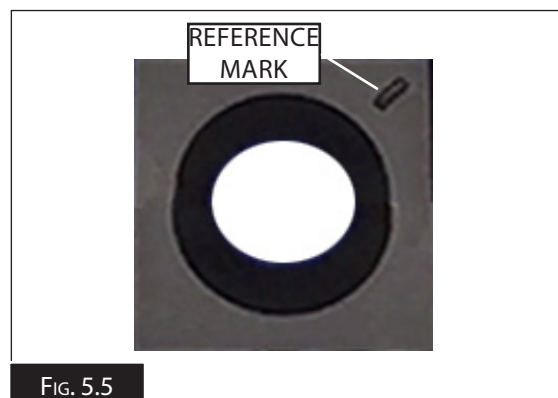

FIG. 5.5
If one edge of the insert becomes dull or damaged, simply rotate it 90° to reveal a fresh cutting edge. (Fig. 5.5)
6. Rotate the insert so that a fresh cutting edge faces outward. If all four insert cutting edges have been used, replace the insert with a new one. Always position the reference mark (Fig.5.5) on the insert in the same position when installing a new insert to aid in the rotational sequencing.